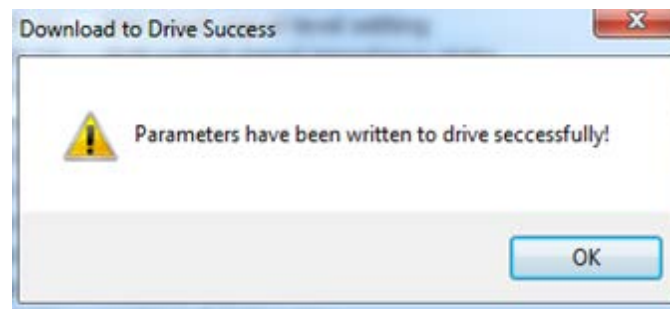

Figure 17: Write to drive success message
- After parameters are successfully written to the drive, a success message (Figure 17) will be popped up. Now, all the changes are permanent and new settings for the CS-D drive will take effect next time when the drive is re-powered.